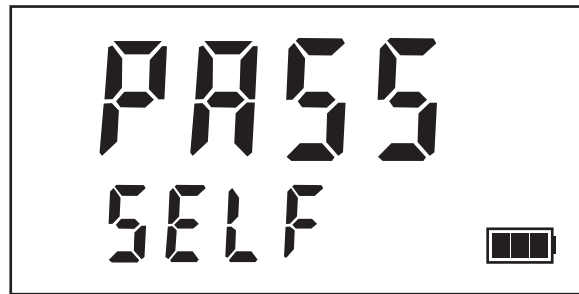

Figure 08
- *If all tests prove positive*, "PASS" appears briefly in the upper display and "SELF" appears in the lower display as Figure 08 shows.